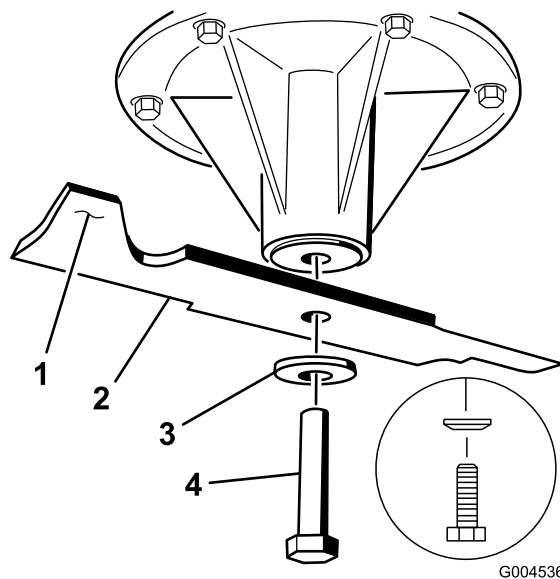

Figure 97
1. Install the blade onto the spindle shaft (Figure 97).
2. Install the spring disk and blade bolt (Figure 97).
**Note:** The spring-disk cone must be installed toward the bolt head (Figure 97).